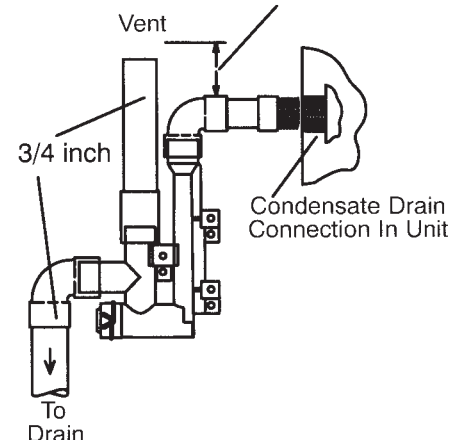

Figure 52. Trap Drain Assembly Using 1/2" PVC or 3/4" PVC
4. Install drain trap using appropriate PVC fittings, glue all joints. Glue the provided drain trap as shown in Figure 52. Route the condensate line to an open drain. Condensate line must maintain a 1/4" downward slope from the furnace to the drain.